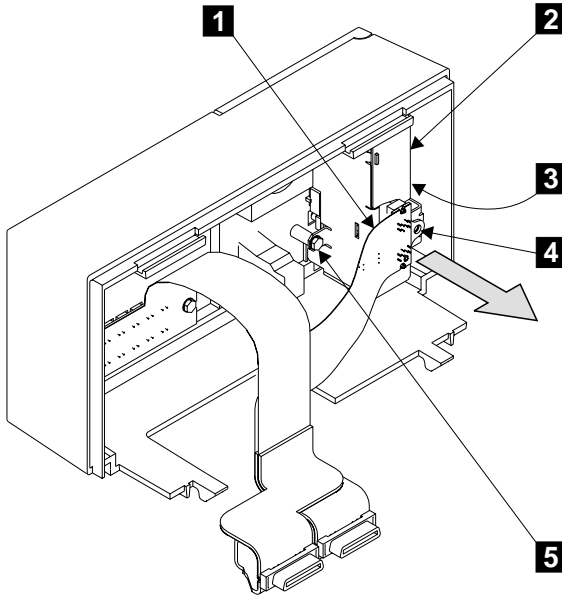

Figure 102. Removing the Operator Panel Flexible Circuit and the Operator Panel from a Model T40
- Step 3. Refer to Figure 102.